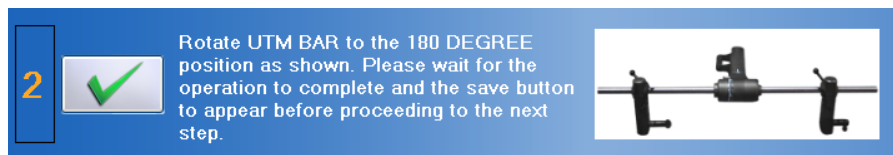

Figure 10-32. UTM - Set the Final Bar Rotation
Step 4. Click on  to set the final angle (Figure 10-32).